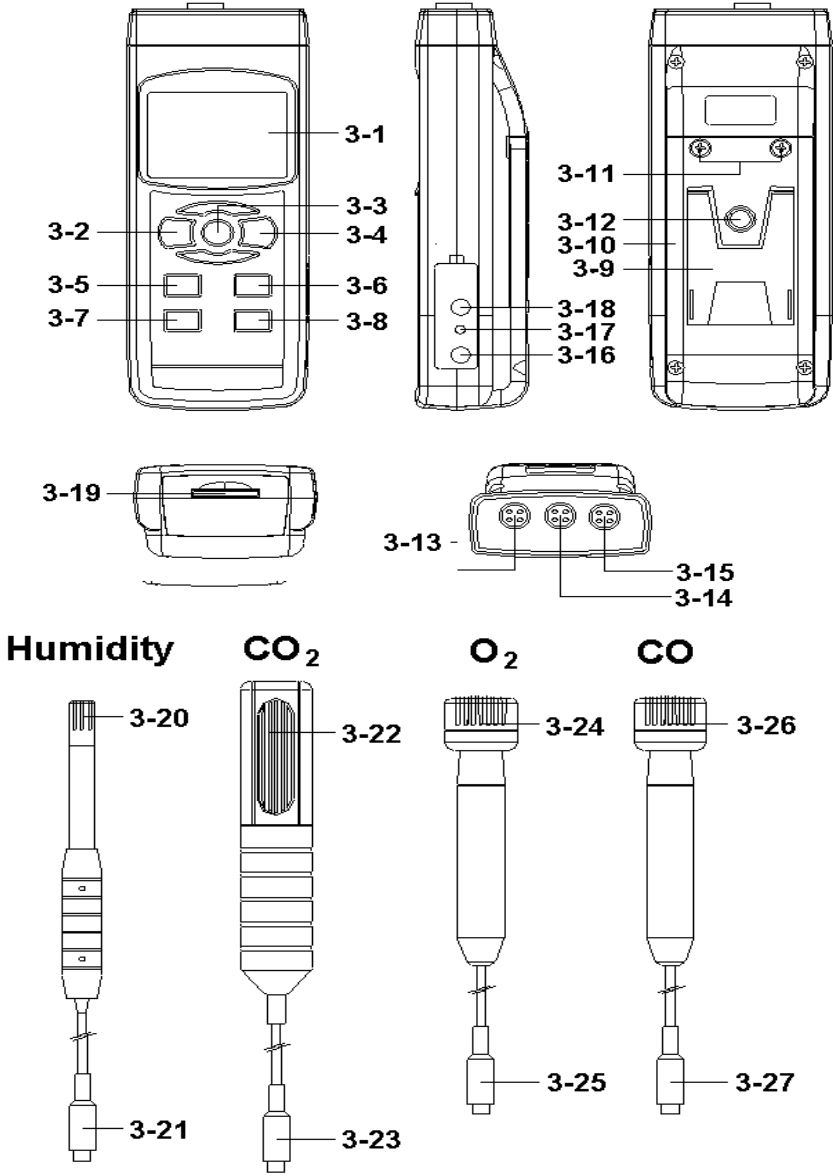

Fig. 1
- 1) Plug in the " Plug of probe " (3-21, 3-23, 3-25, 3-27 Fig. 1) to meter's " Probe Input Socket " (3-13, 3-14, 3-15 Fig. 1)
- 2) Power on the meter by pushing the " Power Button " (3-2, Fig. 1) once.
- 3) Press the " Function Button " (3-6, Fig. 1) once in sequence to select the measuring function :
During the measurement, press the " Hold Button " (3-3, Fig. 1) once will hold the measured value & the LCD will display a " HOLD " symbol.
- 1) The data record function records the maximum and minimum readings. Press the " REC Button " (3-4, Fig. 1) once to start the Data Record function and there will be a " REC " symbol on the display.
- a) Press the " REC Button " (3-4, Fig. 1) once, the " REC MAX " symbol along with the maximum value will appear on the display.
If intend to delete the maximum value, just press the " Hold Button " (3-3, Fig. 1) once, then the display will show the " REC " symbol only & execute the memory function continuously.
- b) Press the " REC Button " (3-4, Fig. 1) again, the " REC MIN " symbol along with the minimum value will appear on the display.
If intend to delete the minimum value, just press the " Hold Button " (3-3, Fig. 1) once, then the display will show the " REC " symbol only & execute the memory function continuously.
After power ON, the " LCD Backlight " will light automatically. During the measurement, press the " Backlight Button " (3-2, Fig. 1) once will turn OFF the " LCD Backlight " .
Prepare a " SD memory card " (1 GB to 16 GB, optional), insert the SD card into the " SD card socket " (3-19, Fig. 1). The front panel of the SD card should face against the down case.
Press the " REC Button (3-4, Fig. 1) once , the LCD will show the text " REC ", then press the " Logger Button " (3-8, Fig. 1), the bottom text " DATALOGGER " will flashing, at the same time the measuring data along the time information will be saved into the memory circuit.
During execute the Datalogger function , if press the " Logger Button " (3-8, Fig. 1) once will pause the Datalogger function (stop to save the measuring data into the memory circuit temporally). In the same time the text of " DATALOGGER " will be no flashing.
If press the " Logger Button " (3-8, Fig. 1) once again will execute the Datalogger again, the bottom text of " DATALOGGER " will flashing .
During pause the Datalogger, press the " REC Button " (3-4, Fig. 1) continuously at least two seconds, the " REC " indication will be disappeared and finish the Datalogger.
Press the " REC Button (3-4, Fig. 1) once , the LCD will show the text " REC ", then press the " Logger Button " (3-8, Fig. 1) once, the bottom text " DATALOGGER " will flashing once and Beeper will sound once, at the same time the measuring data along the time information will be saved into the memory circuit. The lower Display will show the Position (Location) no. and saved into the SD card too.
During execute the Manual Datalogger, press the " ▲ Button " (3-5, Fig. 1) the lower no. (position no.) will flashing. It can use the " ▲ Button " (3-5, Fig. 1) or " ▼ Button " (3-6, Fig. 1) to set the measuring Location no. (1 to 99, for example room 1 to room 99) to identify the measurement location , the lower Display will show P x (x = 1 to 99).
Press the " REC Button " (3-4, Fig. 1) continuously at least two seconds, the " REC " indication will be disappeared and finish the Datalogger.